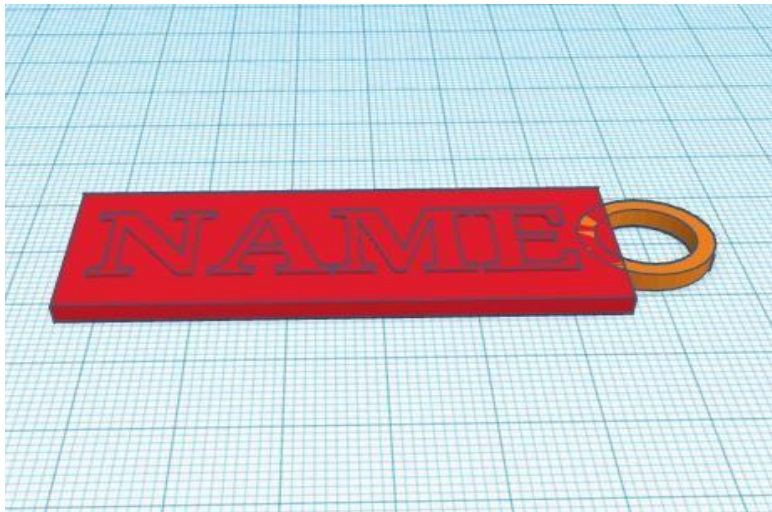

Fig. 4.20: Blending the Tube to the Box to some Extent
9. Drag your tube and place it so the bottom $\frac{1}{4}$ (or so) is inside your box (Fig. 4.20).